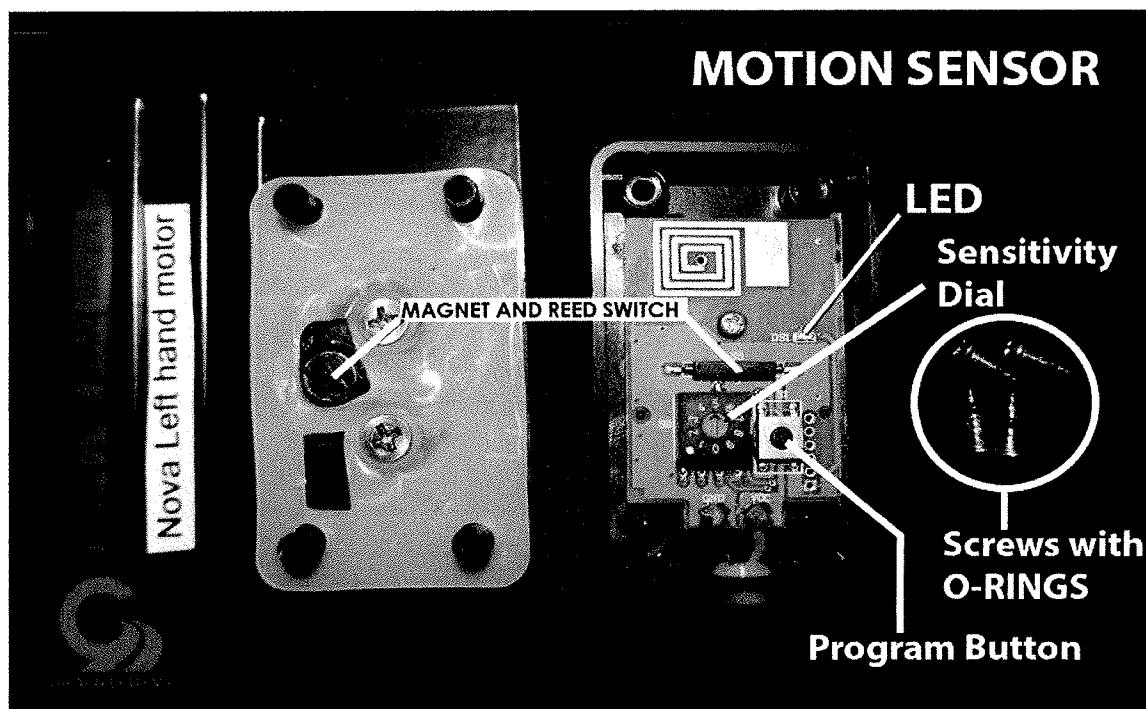

Figure 3
NOTE: THE O-RINGS ARE A CRITICAL PART OF THE NEW MOTION SENSOR AND MUST BE USED (Figure 3).
- C. Locate the Sensitivity Dial and carefully adjust to the **#5** Position (Figure 3).